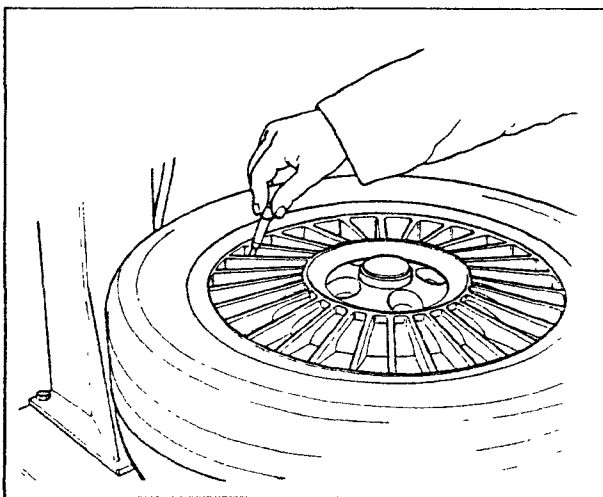

Fig.8
A. Remove all wheel-weights from the rim. Remove the valve stem or core and deflate the tire (Fig.8).